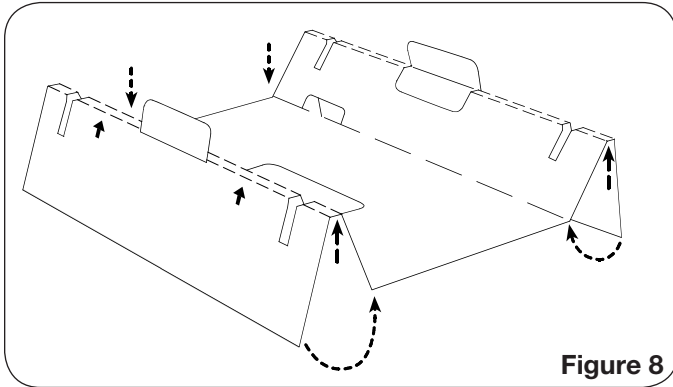

Figure 8
8. Fold sides up and insert tab to lock insert together (Figure 8).